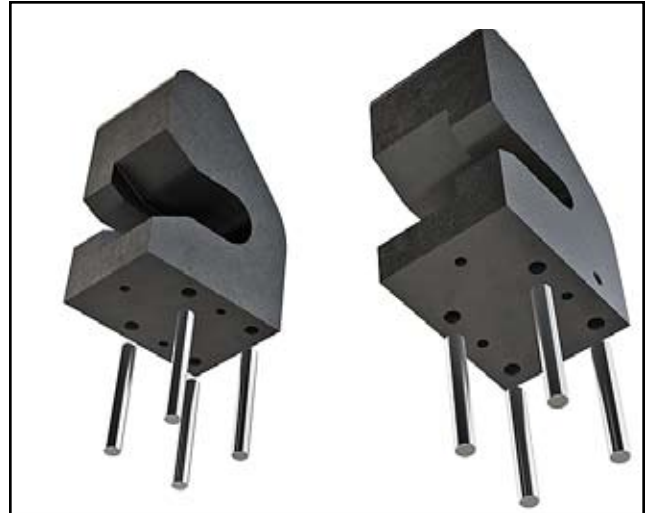

Figure 7 - Attach the Studs to the Towers
3. Hand-thread the stud-end with Loctite® into one of the four mounting holes in the base of each tower (Figure 7).
5. Repeat Steps 3 and 4 until all eight studs are threaded into the large mounting holes in the base of the towers (Figure 7).